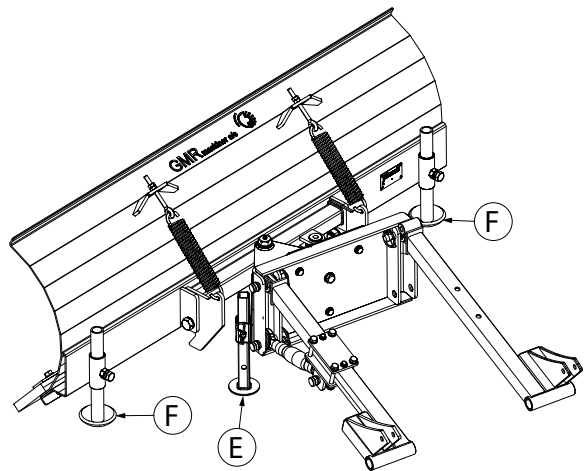

Fig. 6
5. Remove the pin from the storage stand, move it to its upper stowage position and then replace the pin (**E** on Fig. 6).